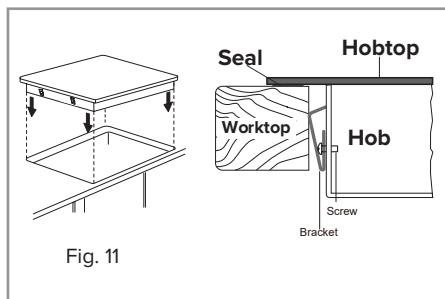

Fig. 11
4. Make sure that the worktop is clean and dust free and insert the hob into the cut-out opening Fig. 11. Press the hob firmly into place so that the seal connects with the worktop.